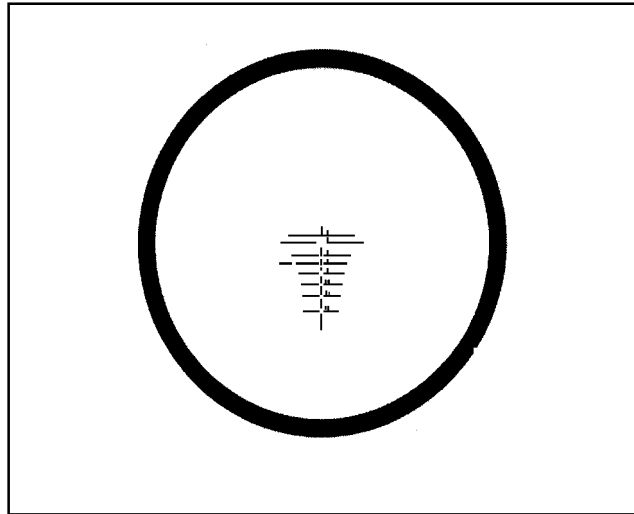

Figure G-40. Correct eye relief.
(1) If the target scene fills the scope to provide the maximum field of view, the correct eye relief has been attained (Figure G-40). No further repositioning of the M145 on the mounting rail is required.